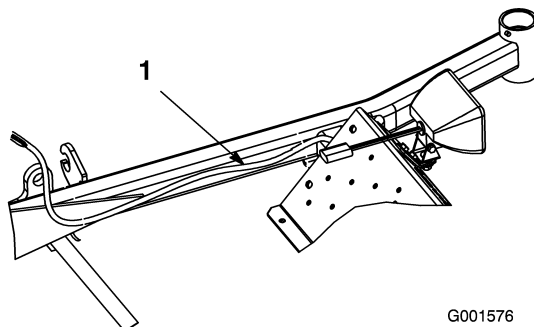

Figure 6
3. Route the light kit wire harness (Figure 6) along the frame.